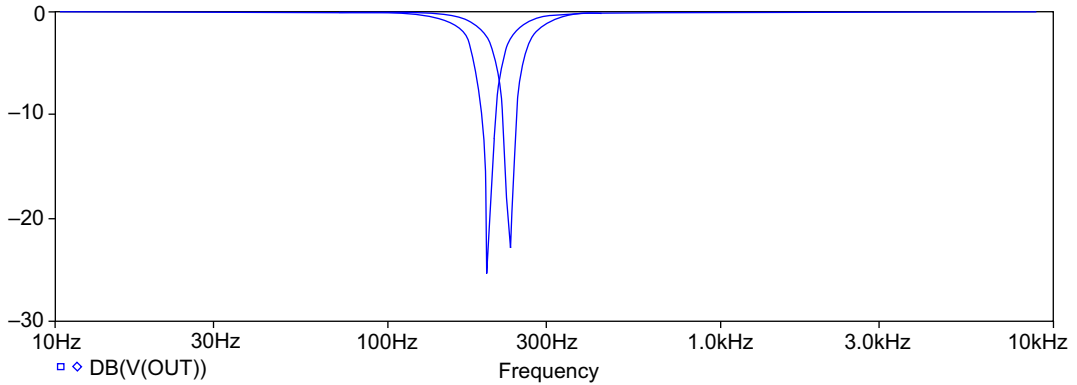

FIGURE 11.12
12. In Probe you will see two output notch responses. The nominal response is at 234 Hz and the worst case response is at 199 Hz (Figure 11.12).